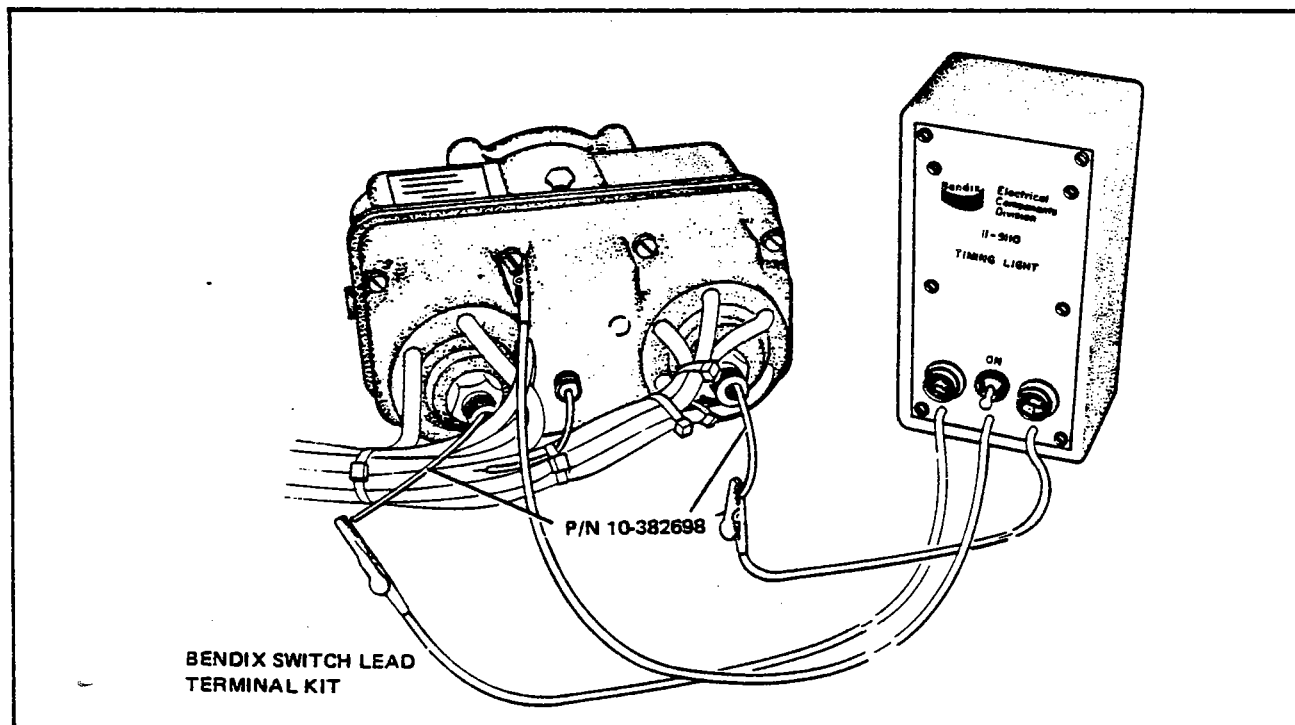

Figure 74-4. Timing Light Connected to Magneto
3. The D-2000 series magneto may be mounted to the engine without removing the cover from the magneto. The cover also has switch terminal outlets for the right and left sides of the magneto, located in the center of the harness lead outlet section of the cover. (Refer to Figure 74-4.)
It is recommended that short adapter leads be fabricated to facilitate connecting the timing light unit to the switch outlet terminals of the cover. (Refer to Figure 74-4.)
Spring in capacitor outlet may cause an indication of a short to ground if adapter lead is not used. (Refer to Figure 74-4.)